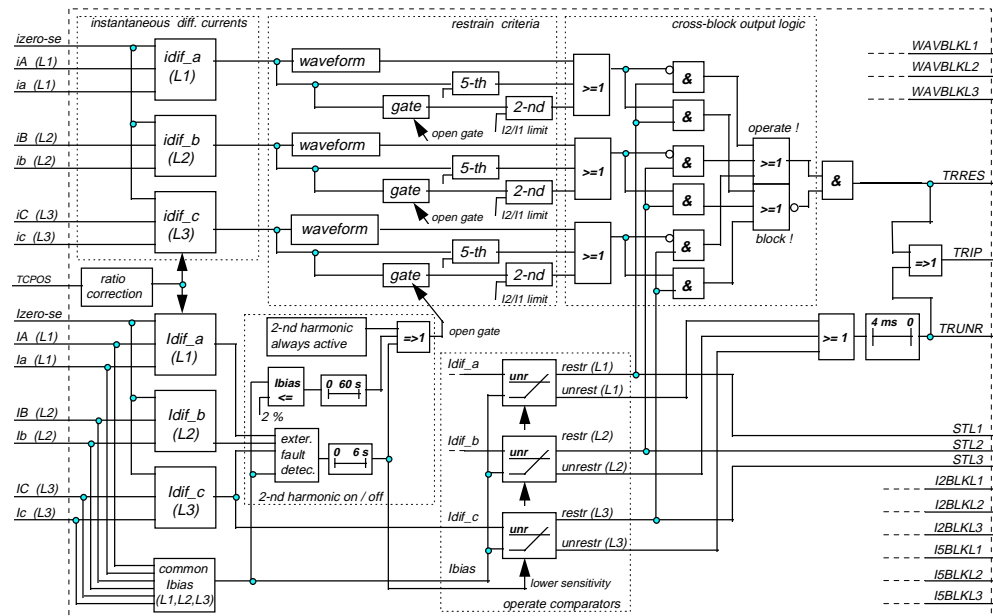

Fig. 50 Simplified DIFP logic diagram for a 2-winding power transformer.
- 4 The zero sequence current compensation is regularly done on all power transformer sides. This is not shown in Fig. 50, where only one (unspecified) zero-sequence current is shown.